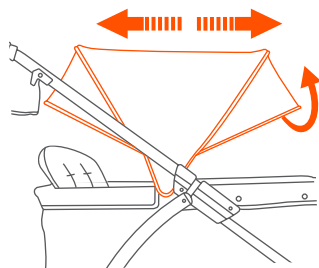

Fig. 6b
- **To open the canopy:** Firmly spread out both sides of the canopy. To use the visors flip outward (Fig 6b).